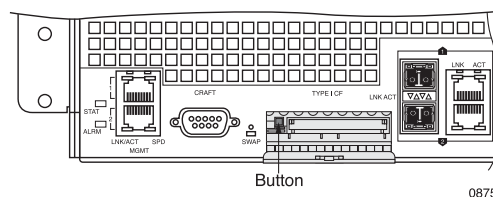

Figure 23 CF Card Ejection Button
4. Press the ejection button that is inside the CF slot (see Figure 23) twice (first to cause the button to protrude from within its recess and second to disengage the CF card from its carrier card connectors).